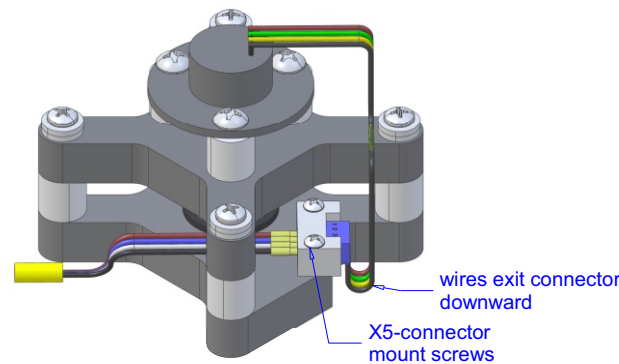

FIGURE-1
- locate X5-connector on axle block assembly (figure-1)